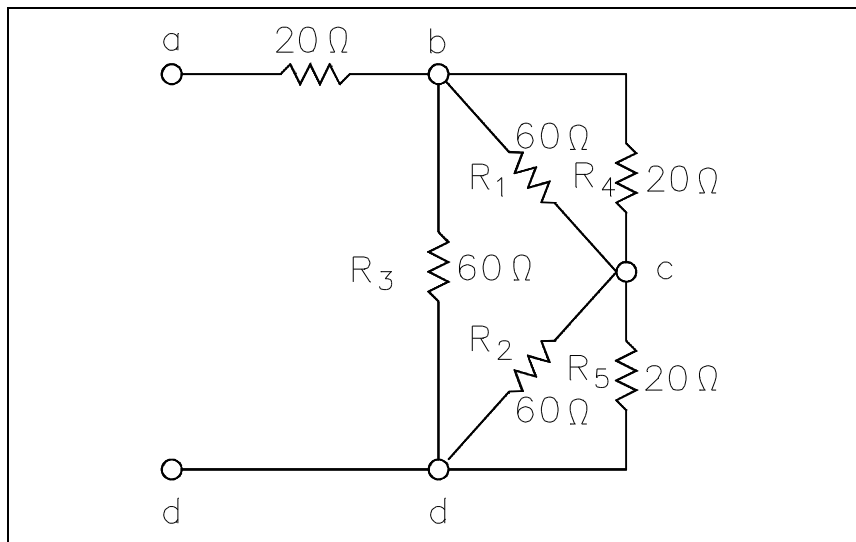

Figure 51 Y - Δ Redrawn Circuit
Step 2: Now, we can redraw the Y circuit as a  $\Delta$  circuit and reconnect it to the original circuit (Figure 51):
Step 3: Reduce and simplify the circuit. Note that the 20Ω and 60Ω branches are in parallel in Figure 51. Refer to Figures 51 and 52 for redrawing the circuit in each step below.